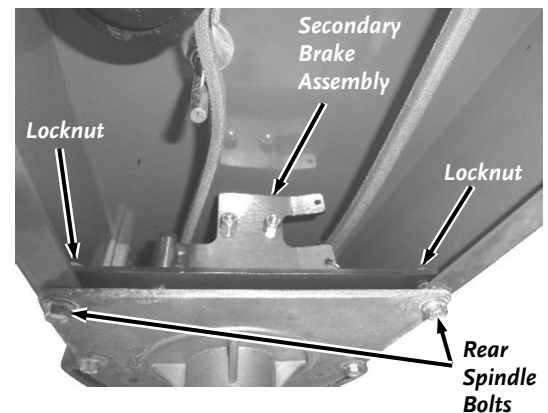

Figure 6
4. Remove and discard the two rear Spindle Bolts that secure the Spindle to the Frame using a 3/8" wrench (**Figure 6**).